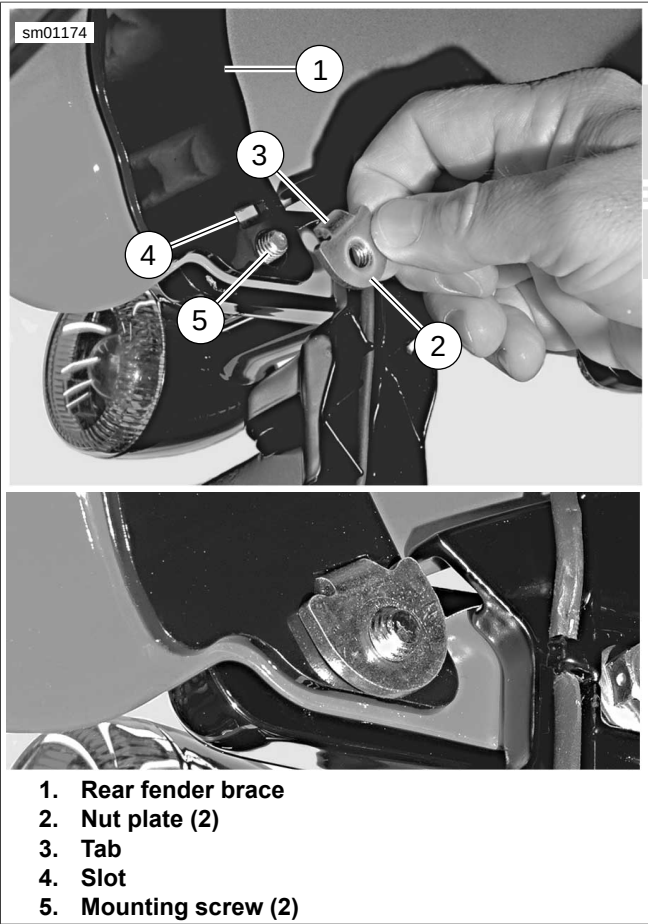

Figure 6-78. Rear Fender Nut Plate: XL 883N, XL 1200X/V
See Figure 6-78. Make certain that tab (3) on nut plate (2) fits into slot (4) in fender brace (1) when securing nut plate with rearmost fender mounting screw (5).